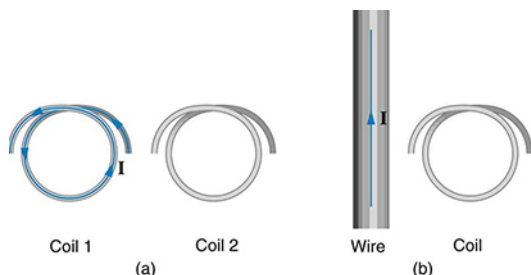

FIGURE 23.54 (a) The coils lie in the same plane. (b) The wire is in the plane of the coil.
3. Referring to Figure 23.54(a), what is the direction of the current induced in coil 2: (a) If the current in coil 1 increases? (b) If the current in coil 1 decreases? (c) If the current in coil 1 is constant? Explicitly show how you follow the steps in the Problem-Solving Strategy for Lenz's Law.
4. Referring to Figure 23.54(b), what is the direction of the current induced in the coil: (a) If the current in the wire increases? (b) If the current in the wire decreases? (c) If the current in the wire suddenly changes direction? Explicitly show how you follow the steps in the Problem-Solving Strategy for Lenz's Law.
Approximately how does the emf induced in the loop in Figure 23.54\(b\) depend on the distance of the center of the loop from the wire?
(a) A lightning bolt produces a rapidly varying magnetic field. If the bolt strikes the earth vertically and acts like a current in a long straight wire, it will induce a voltage in a loop aligned like that in Figure 23.54\(b\). What voltage is induced in a 1.00 m diameter loop 50.0 m from a 2.00×10^6 A lightning strike, if the current falls to zero in 25.0 μ s? (b) Discuss circumstances under which such a voltage would produce noticeable consequences.